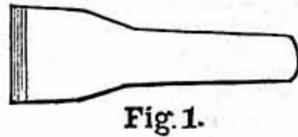

Fig. 1.
**Cracked Saw.**—R. W. A. (London, W.C.).—The little inequality in the wood should not have caused your accident. You ask whether it is best to break the saw off or to braze it. To break or to try to break it off would be folly, and to braze it you would have to cut the piece straight across first, and then have both ends filed to a bevel before brazing, which would not only reduce the length of the saw, but would spoil the temper for a certain distance, and perhaps render it useless. You did not say how far the crack is from the point. You say it is 2 in.; therefore I judge it to be 2 in. in length; but if the crack is not more than 2 in. from the point, and your saw is 28 in. long, should you cut the piece off it will be then the length of an ordinary hand-saw; and if the crack is a little further up from the point, my advice is to cut it off and file the point square, and you will find it useful for some work, and in its place lay out a shilling or two more than you gave for it, and get a good saw. Now, there is a right and a wrong way in cutting off a piece from a saw. If you are not careful, you may ruin your saw. First get a wide chisel in the form of Fig. 1, and grind to an obtuse angle (as shown in Fig. 2), and temper it very hard. Then place the saw on the anvil, with the handle towards you, and the point from you. Take the chisel (holding it straight across the saw, with the head slightly inclined towards you), and strike a blow with a fairly heavy hammer; then move the chisel, and strike another blow, not too heavy, just making a mark with the chisel across the plate. Then go over the same spot again, striking the chisel pretty smartly, taking care to hold the head of chisel a little towards you, or you may get a serious crack or flaw in the plate, and your saw will be of no use. After the piece is off, file the end, and it will not be perceived whether the saw has been cut.—A. R.